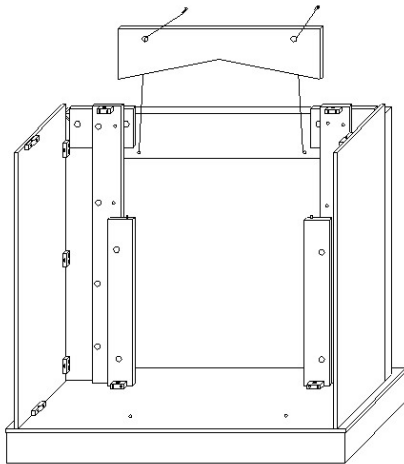

Fig. 7
Step 7: Attach Upper Front Panel [C] to Front Decorative Panel [K] with 2 KD screws. See Fig. 7